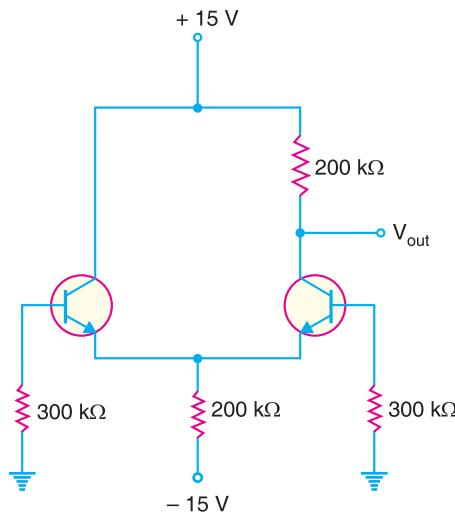

Fig. 25.97
1. In Fig 25.97, the transistors are identical with  $\beta_{dc} = 200$ . What is the output voltage? [7.5 V]
2. In Fig. 25.97, the left transistor has  $\beta_{dc} = 225$  and the right transistor has  $\beta_{dc} = 275$ . What are the base voltages?